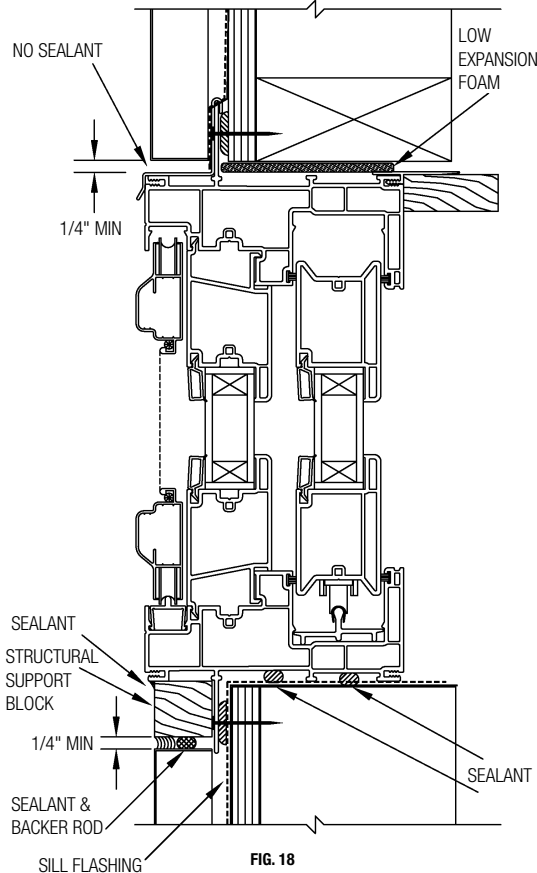
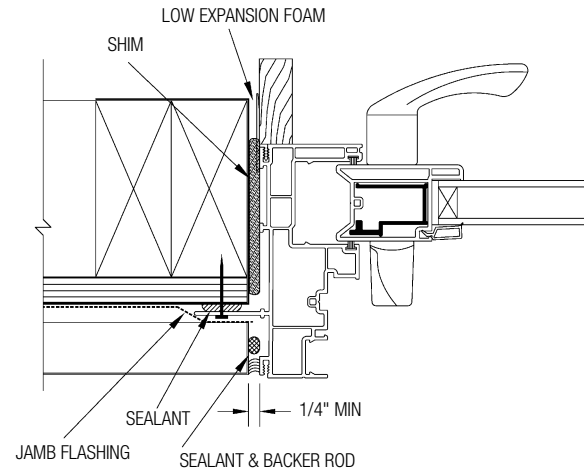

FIG. 18
FIG. 19
A) Support material is required on exterior sections of sliding patio doors. Install a structural wood support block at sill. (Fig 18)
C) After siding or wall exterior is complete, apply backer rod and sealant between the door frame and siding material on both sides and sill. Make sure to use 100% neutral cure silicone sealant. (Fig 19)
- A) Install a seal around the full interior perimeter of the opening. On the side/jambs and top, apply minimally expanding window and door spray foam insulation. Use caution not to overfill the gap, causing the side/jambs to bow. It is not recommended to apply trim to the unit until the foam has cured to allow excess to escape. On the sill, apply a bead of sealant between the sill flashing and the door frame (Fig.18 & Fig.19)